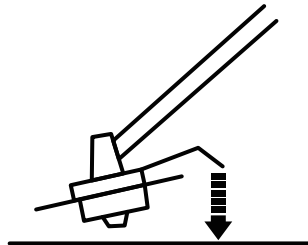

Fig. 14e
9). The trimmer head is equipped with a bumper (B12) helping to cut the trimming line (B11) while operating. Simply tap the bumper on a firm surface and the spool will release fresh trimming line. (See Fig. 14e)